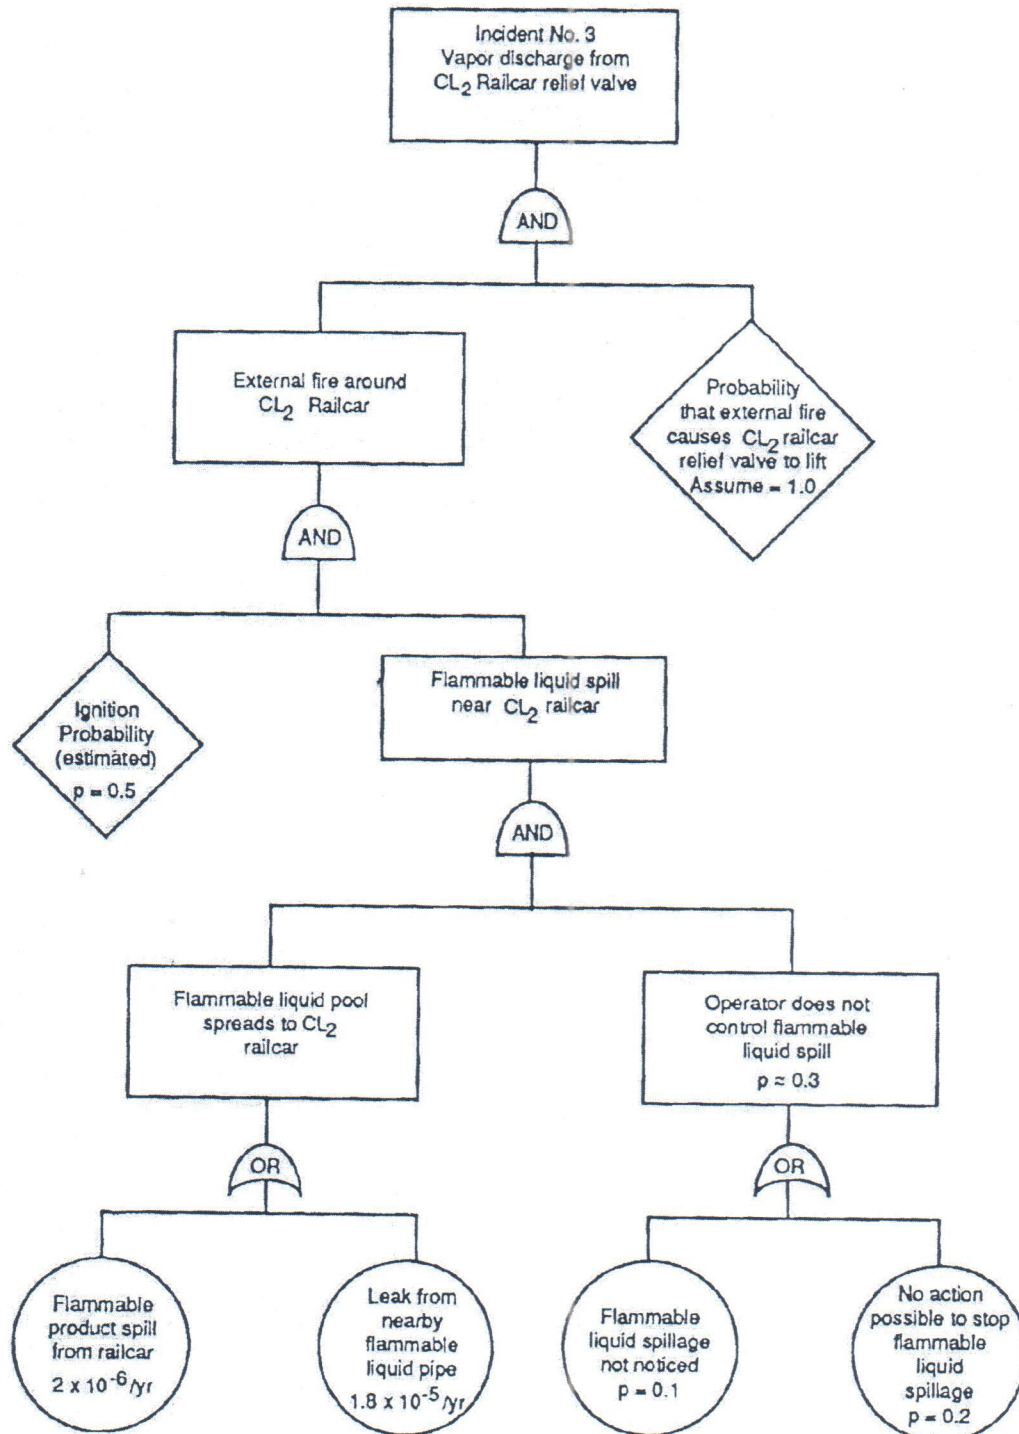

Figure Q.3
- [a] Determine the frequency of the top event for the Fault Tree Diagram in Figure Q.3 using the Minimum Cut Set method and compare the value for the Incident 3.